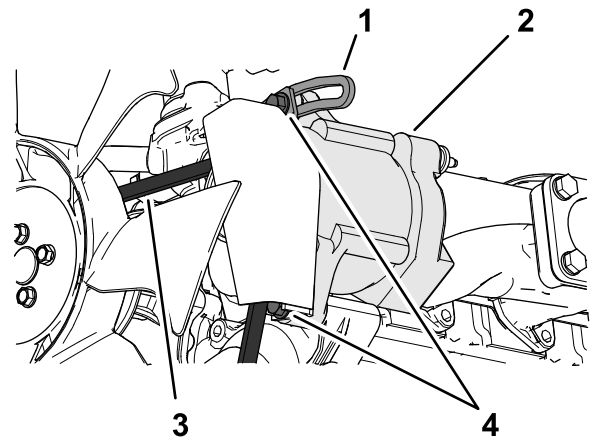

Figure 93
3. Loosen the bolt at the pivot point of the alternator; loosen the bolt that secures the alternator to the slotted brace (Figure 93).